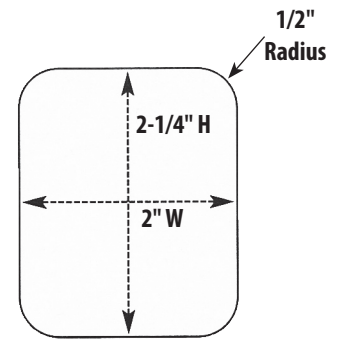

FIGURE 2
3. An alternate way to mount your control is to cut a rectangular hole with rounded (1/2" radius) corners 2" W x 2-1/4" H (See Figure 2). This is accomplished by drilling a 3/8" hole in the center of the area to be used. This allows access for a saber-saw blade. Note that the control attaches in the corners, so be careful not to cut away mounting areas.